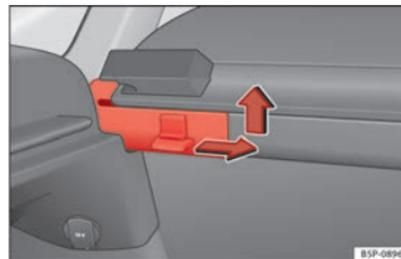

Fig. 120 Removing the rear shelf.
- Press the side pin in the direction of the arrow, lift the cover and remove it ⇒ Fig. 120.